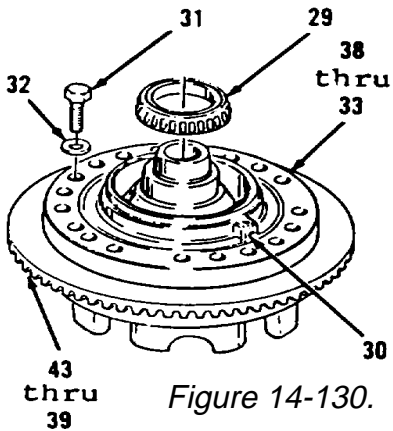
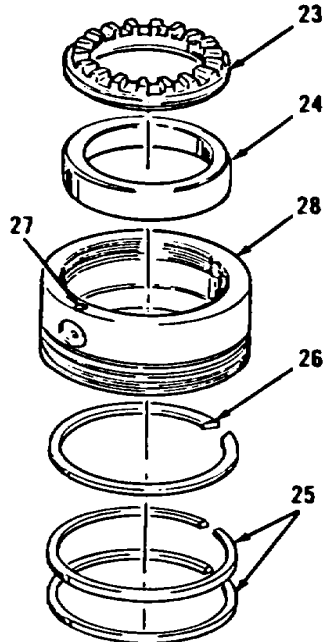

Figure 14-130.
Figure 14-129.
- 6. Install two dowels (34).
- 7. Turn over items 38 thru 33 as an assembly and install on items 43 thru 39 as an assembly (Figure 14-130).
- 8. Install 18 washers (32) and bolts (31). Tighten 18 bolts (31) to 175 to 195 ft-lb torque.
- 9. If absence of ball (30) was noted during disassembly, install new ball (30), peening over edges of housing (38) to be sure ball is securely retained.
- 10. Heat cone bearing (29) in engine oil SAE 30 to 175 degrees F and install.
- 11. Install ring (26), two rings (25) and cup (24) to cage (28, Figure 14-129).
- 12. Install nut (23).
- 13. If absence of ball (27) was noted during disassembly, install new ball (27) in cage (28), peening over edges of cage to be sure ball is securely retained.